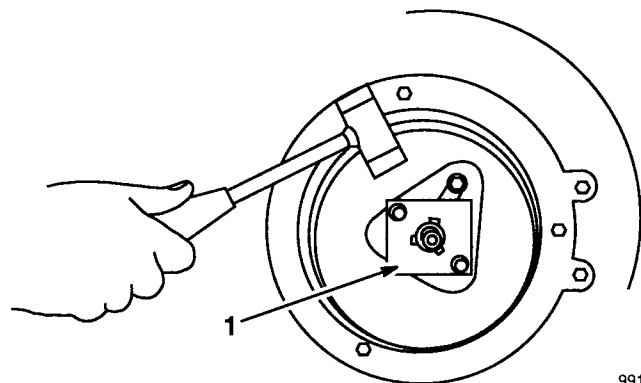

Figure 31
3. Remove blade driver by tapping with plastic or fiber hammer in the direction of rotation (Fig. 31). This will loosen the blade driver from taper on crankshaft.